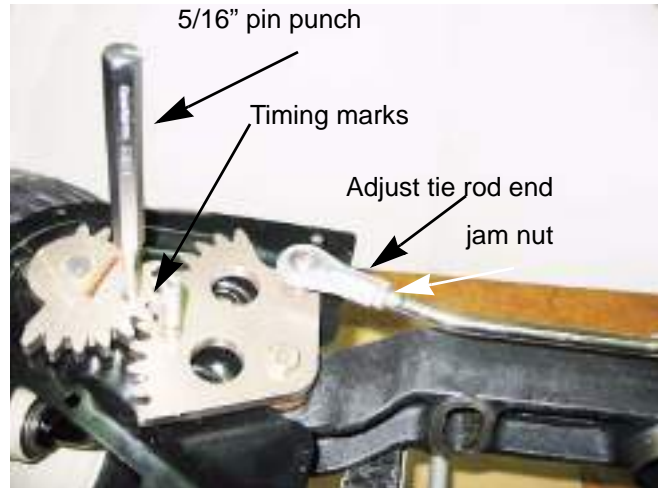

Figure 6A.98
NOTE: Make sure they go all the way through into the pivot bar to lock the gears in position. See Figure 6A.98.
19. Adjust the tie rod ends by loosening the jam nuts and rotating the tie rod ends until they slide on to the 1/4" bolts sticking up through the inboard steering gears. Tighten the jam nuts to lock the tie rod ends in place. See Figure 6A.98.